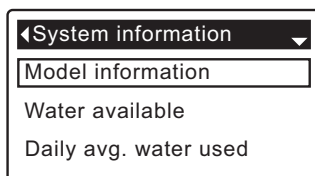

FIG. 56
3. Press the SELECT (O) button to display the System information menu (See Figure 56).
7. When finished viewing an information screen, press the SELECT (O) button. The display will go back to the System information menu (Figure 56). It will also exit automatically if no buttons are pressed for four minutes.